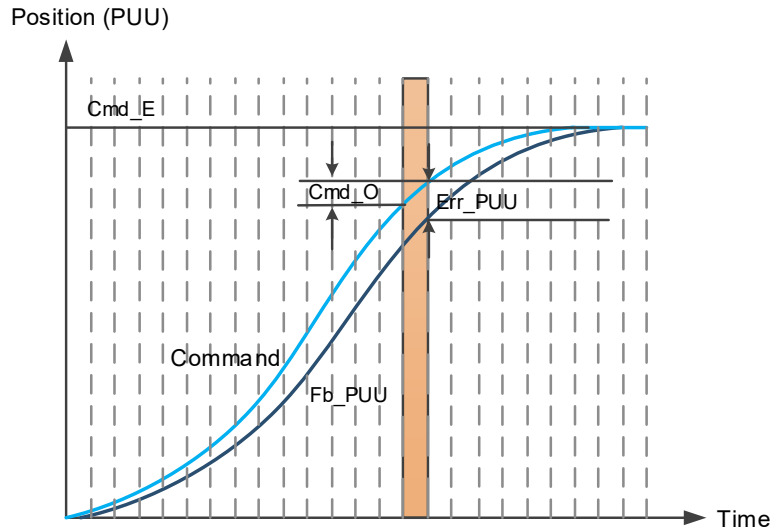

Figure 7.1.2.2 Monitoring variable status when a command is executed in PR mode
You can use digital input (DI) to call PR paths and digital output (DO) to monitor PR paths (refer to Tables 8.1 and 8.2 for the DI/O function descriptions in Chapter 8). When you trigger the motion command with DI.CTRG (0x08), the servo drive operates based on the command from the internal registers. Once the execution is complete, DO.Cmd\_OK (0x15) is set to On. When the motor reaches its target position, DO.TPOS (0x05) is set to On. When both DO.Cmd\_OK (0x15) and DO.TPOS (0x05) are On, the servo outputs the DO.MC\_OK (0x17) signal to signify that it has completed this PR path. The operation is as shown in Figure 7.1.2.3.